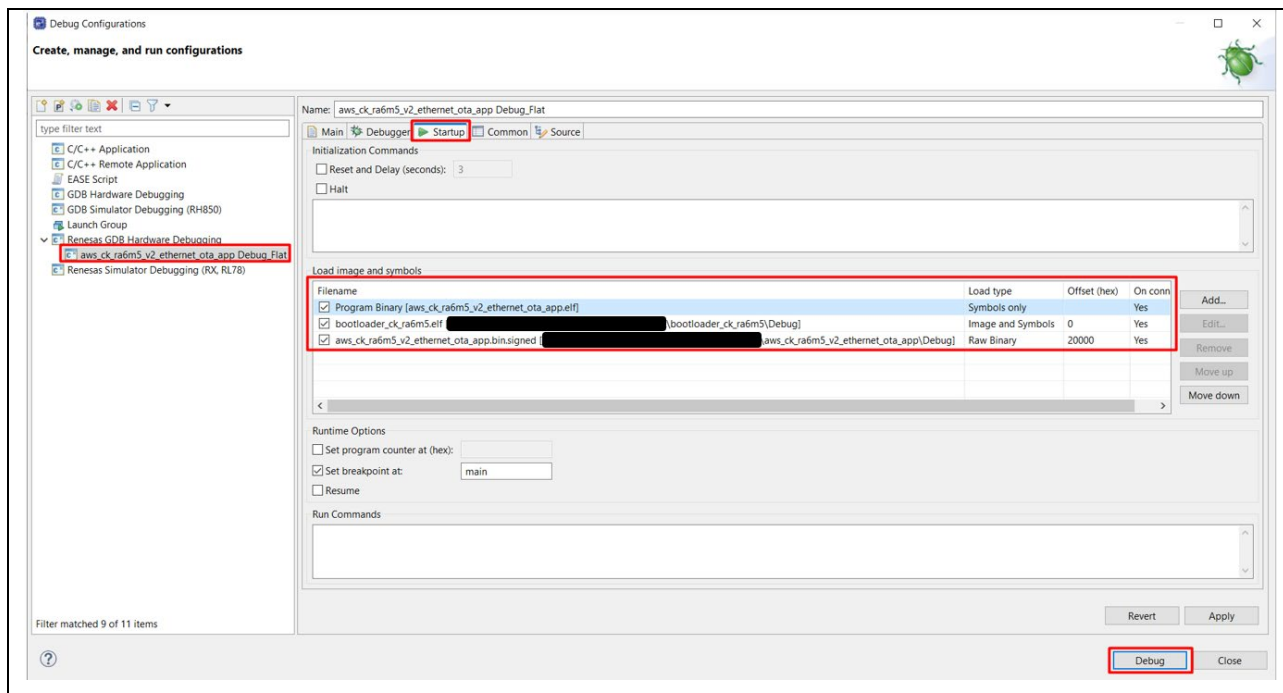

Figure 58. Debug Configurations
- Change the **Load type** of the Program Binary for the `aws_ck_ra6m5_v2_ethernet_ota_app` by clicking on the cell for **Load type** and selecting **Symbols only** from the drop-down menu. Similarly, change the load type of the signed binary image `aws_ck_ra6m5_v2_ethernet_ota_app.bin.signed` to **Raw Binary** Load type, and the **Offset (hex)** is set to **20000**; `bootloader_ck_ra6m5.elf` with **Image and symbols**, and the **Offset (hex)** is set to **0**. Please refer to Figure 58. Debug Configurations to verify the setting result.